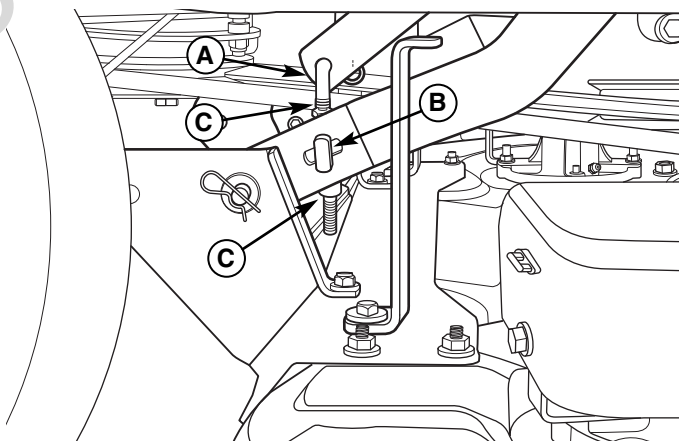

Figure 37. Side-to-Side Leveling
6. Side-to-side leveling is accomplished using the threaded rods (A, Figure 37) and trunnion (B) on the right and left rear sides of the mower deck. Loosen the jam nuts (C) and adjust the nuts up or down to adjust the mower level. When complete, tighten the jam nuts against the trunnion to lock the adjustment in place.